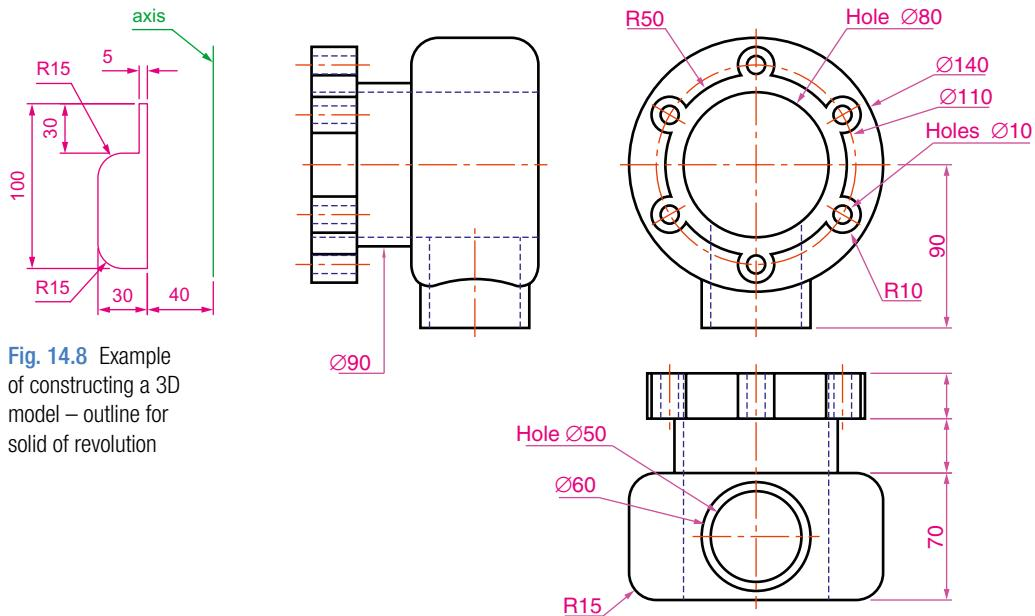

**Fig. 14.6** Second example – a library of fastenings
### Second example – a library of fastenings (Fig. 14.6)
2. Open the DesignCenter, click on the **Chapter 14** directory, followed by a click on **Fig05.dwg**. Then click again on **Blocks** in the content list of **Fig05.dwg**. The five 3D models of fastenings appear as icons in the right-hand side of the DesignCenter (Fig. 14.6).